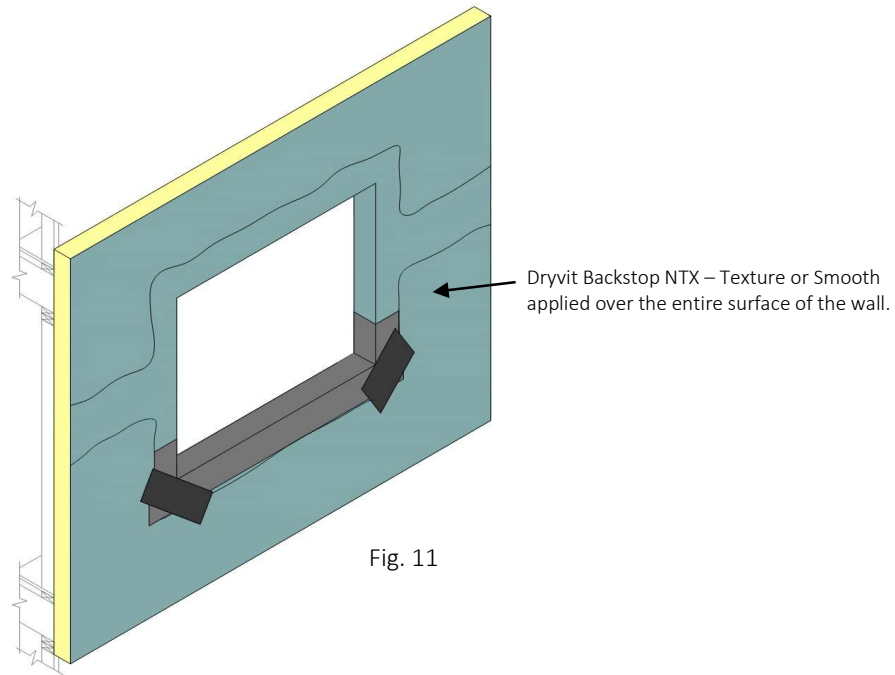

Fig. 11
- 4) Install the specified component (i.e. window, etc.) and associated flashings per manufacturer’s directions and contract documents. Then apply Backstop NTX – Texture or Smooth to the remainder of the wall surface as described in Section 7 and lap over the previously installed material around openings – **Figure 11.**